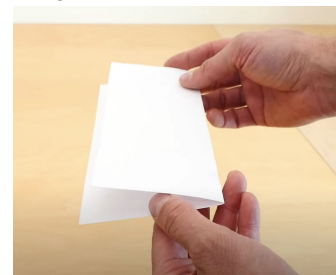

Figure 7: Make sure one side is slightly longer than the other when folded
2. Cut the longer side of the paper so that you are left with about 3.5" on the longer side. You should be left with a piece of paper approximately 7.5" x 8.5", folded slightly unevenly. (**see figure 7**)